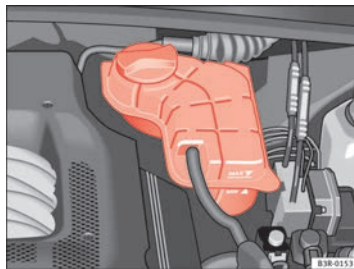

Fig. 179 Engine compartment: Coolant fluid deposit
- Check the coolant level on coolant fluid expansion tank ⇒ fig. 179. When the engine is cold, it should be between the “min” and “max” marks. When the engine is hot, it may be slightly above the “max” mark.
- Cover the cap on the expansion tank ⇒ fig. 179 with a cloth, and **carefully** unscrew the cap anti-clockwise ⇒ .